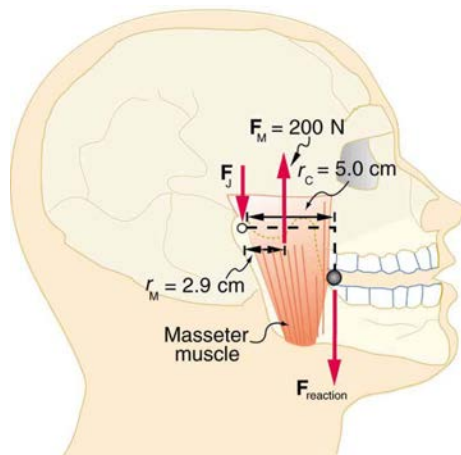

Figure 9.45 A person clenching a bullet between his teeth.
35. Unlike most of the other muscles in our bodies, the masseter muscle in the jaw, as illustrated in **Figure 9.45**, is attached relatively far from the joint, enabling large forces to be exerted by the back teeth. (a) Using the information in the figure, calculate the force exerted by the lower teeth on the bullet. (b) Calculate the force on the joint.